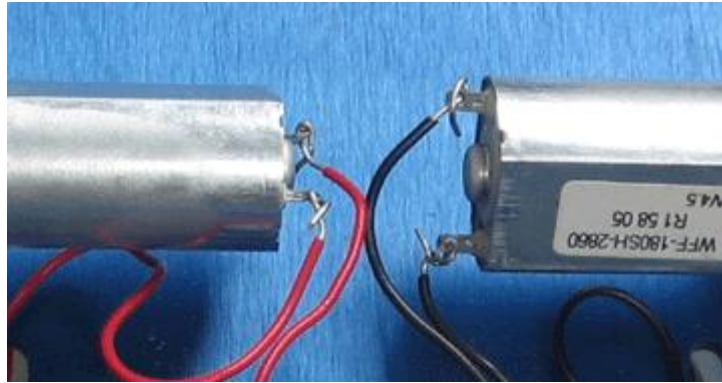

Figure 11. Wire leads connected to DC motor terminals.
**1. At each of the four motor terminals, insert a stripped end of the flexible insulated wire into the small hole, and gently twist the wire back on itself to secure it in place, as shown in Figure 11.**